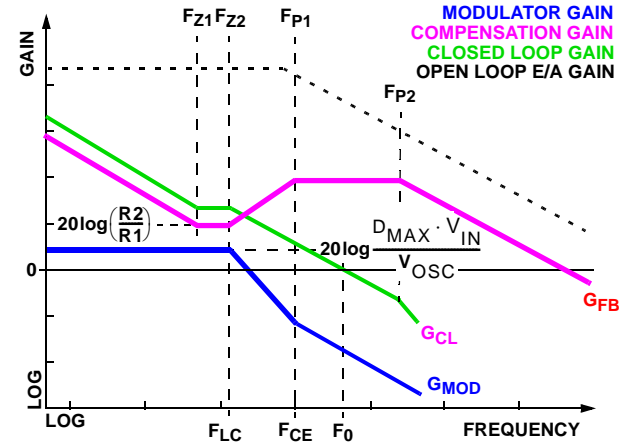

FIGURE 8. ASYMPTOTIC BODE PLOT OF CONVERTER GAIN
Figure 8 shows an asymptotic plot of the DC/DC converter's gain vs frequency. The actual Modulator Gain has a high gain peak dependent on the quality factor (Q) of the output filter, which is not shown. Using the previously mentioned guidelines should yield a compensation gain similar to the curve plotted. The open loop error amplifier gain bounds the compensation gain. Check the compensation gain at  $F_{P2}$  against the capabilities of the error amplifier. The closed loop gain,  $G_{CL}$ , is constructed on the log-log graph of Figure 8 by adding the modulator gain,  $G_{MOD}$  (in dB), to the feedback compensation gain,  $G_{FB}$  (in dB). This is equivalent to multiplying the modulator transfer function and the compensation transfer function and then plotting the resulting gain.